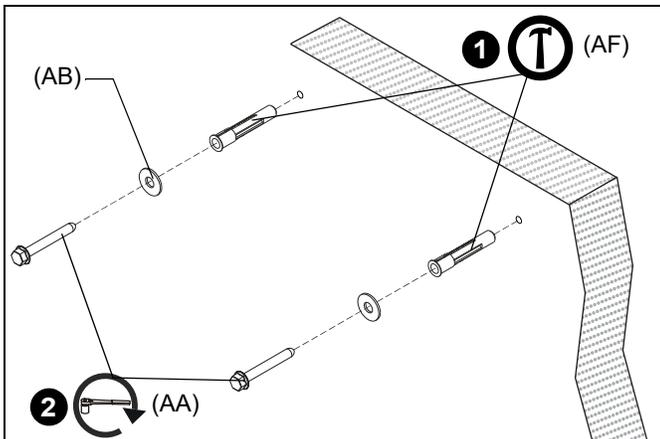

Figure 20
1. Install one UX10X60R anchor (AF) into each pilot hole using a hammer, making sure that the anchor is flush with the wall. (See Figure 20)
2. Use one 5/16" x 2-1/2" hex flange head lag bolt (AA) and one 5/16" washer (AB) through product into each anchor in wall. (See Figure 20)